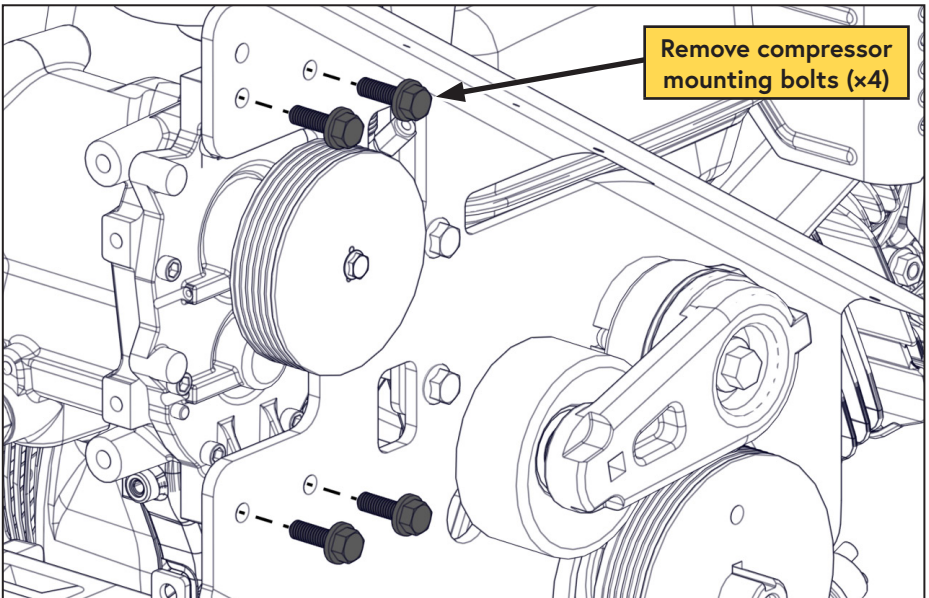

Figure 68 — Remove compressor
- Remove the (×4) bolts securing the compressor to the belt guard (Figure 68).